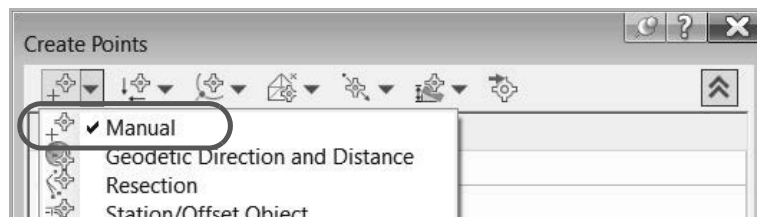

Figure 2–6
4. Select the **Manual** option in the miscellaneous group in the toolbar, as shown in Figure 2–6.